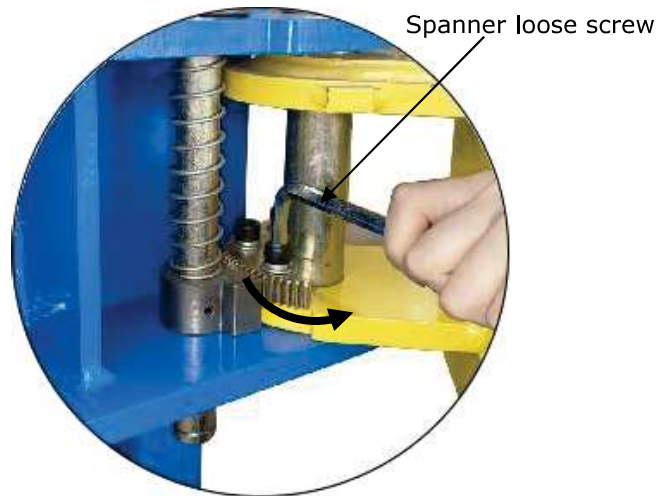

Fig. 26
2. Lowering the carriages down to the lowest position, then use the 8# socket head wrench to loosen the socket bolt (See Fig. 26)